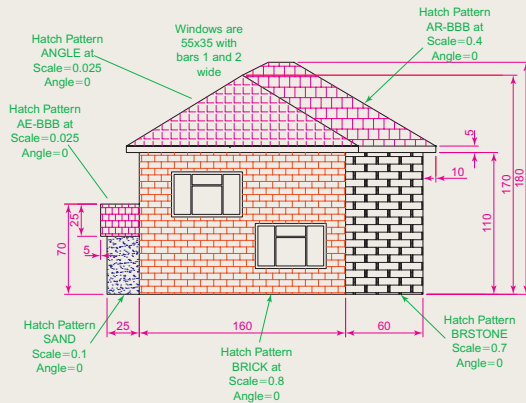

Fig. 8.24 Exercise 5
- Working to the notes given with the drawing Fig. 8.24, construct the end view of a house as shown. Use your own discretion about sizes for the parts of the drawing.